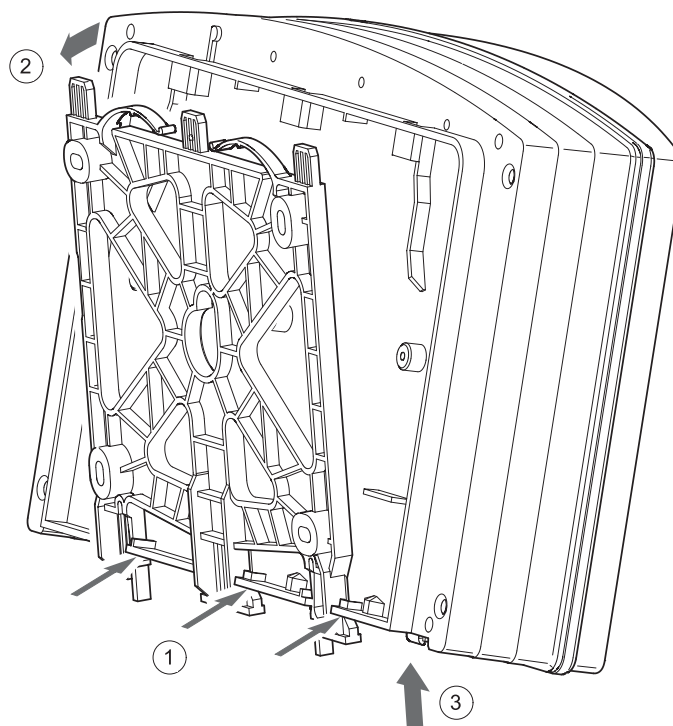

Fig. 17: Mounting of the housing
*Mounting of the housing* Place the housing in the bottom of the wall bracket (Fig. 17, 1) and press it slightly at the top against the wall bracket (Fig. 17, 1). Then check that it is securely hinged at the top and press to the bottom until an audible click is heard (Fig. 17, 3).